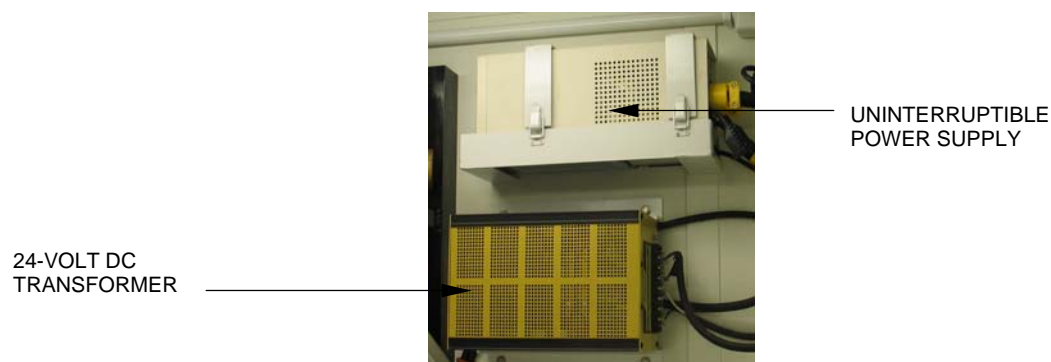

Figure 2-4. Uninterruptible Power Supply and 24-Volt Transformer
**2-4.4 UNINTERRUPTIBLE POWER SUPPLY (UPS) AND TRANSFORMER.** The UPS (see Figure 2-4) is mounted on the outboard wall of the van, over the HP Air Reducing Station. The UPS is fed electrical power from a dedicated breaker and supplies power to the 24-volt dc transformer and critical 24-volt dc power components on the recompression chamber. The UPS is designed to provide adequate power to safely operate the chamber in the event of a loss of electrical power.